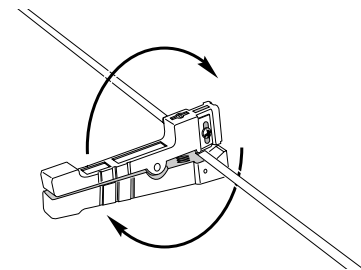

Figure 11
- Use your other hand to rotate the tool around the tube two to three complete turns to score it (Figure 11).